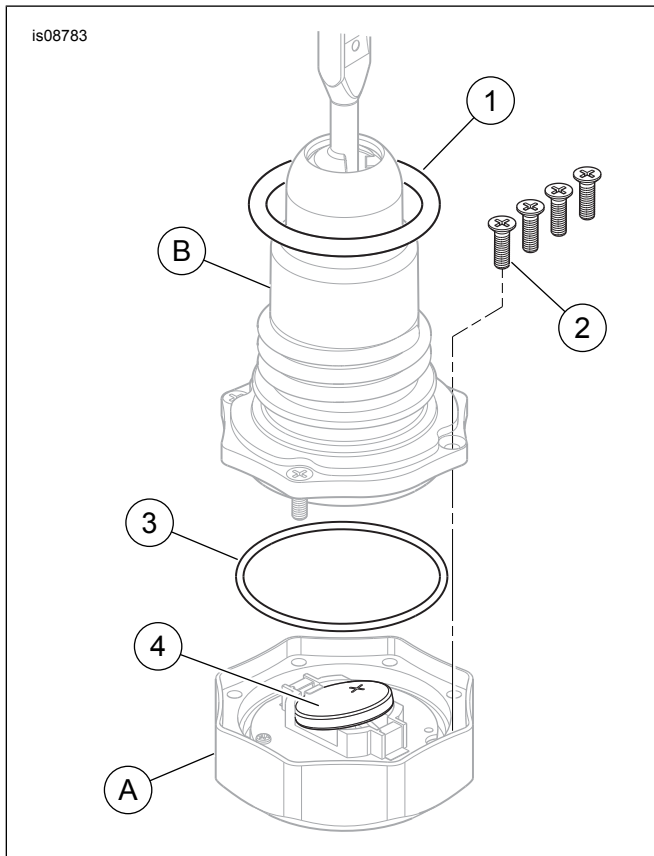

Figure 3. Dipstick Service Kit
A Dipstick Service Kit (Part No. 91800066), which includes O-rings, screws and a replacement CR 2032 battery is available for certain models (see Table 1 and Figure 3).
See Figure 3. Be careful when separating the upper display body (A) and lower dipstick assembly (B).
1. Remove the four small Phillips head screws (2) on the underside of the display body.
- Certain models require purchase of a Dipstick Service Kit (Part No. 91800066), available from a Harley-Davidson dealer. This Kit includes O-rings, screws and a replacement CR 2032 battery (see Figure 3 and Table 1).
See Figure 3. Mark the upper display body (A) and lower (B) dipstick components before disassembly, so they can be assembled in the same rotational alignment. Be careful when separating the two components.
3. Note the battery orientation. Using a mechanic pick or a small screwdriver, carefully insert the tool under the battery (4). Gently pry the battery free and discard it. Insert the new battery as shown. Push the battery down until seated.